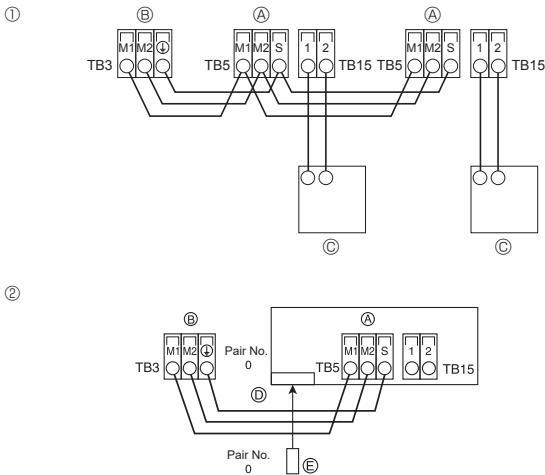

Fig. 6-3
6.5. Connecting remote controller, indoor and outdoor transmission cables (Fig. 6-3)
- ① MA Remote controller
- ② Wireless remote controller
- ① Terminal block for indoor transmission cable
② Terminal block for outdoor transmission cable (M1(A), M2(B), ⊕(S))